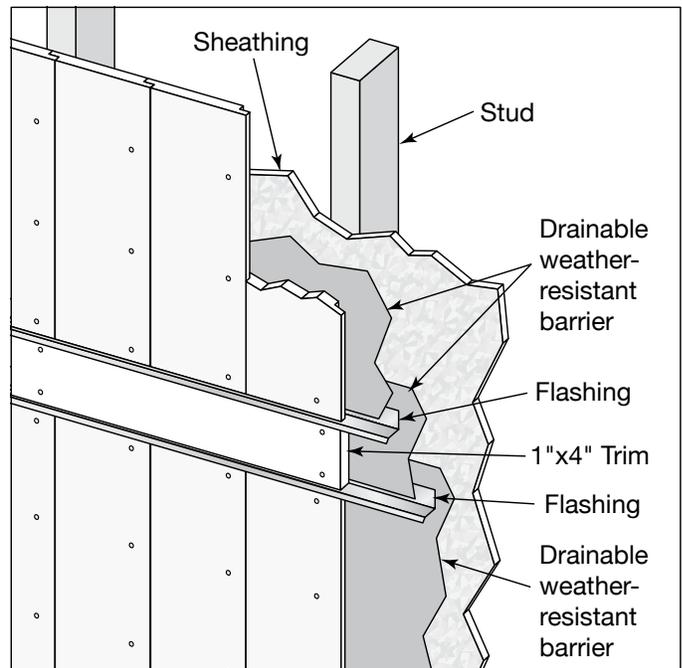

Fig. 6
- In situations where the height of the home requires more than one piece of siding installed vertically, create a "belly band" trim joint with a piece of 1"x4", 1"x6" or 1"x8" trim (depending on preference) and z-flashing above and below (Fig. 6).